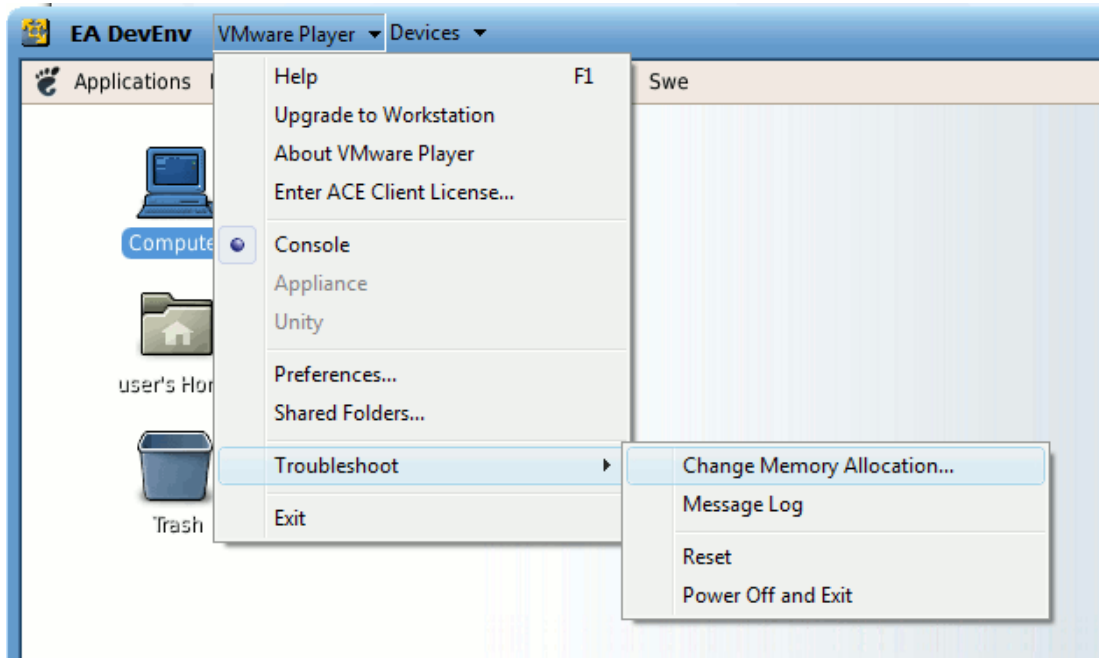

Figure 7 Change Memory Allocation in VMware
2. Select the Troubleshoot menu alternative, see Figure 7 below, and then select Change Memory Allocation.